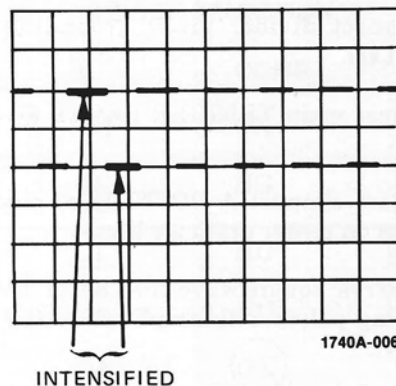

Figure 6. Normal Display With Intensified Area
5. Adjust DELAY **52** clockwise until intensified portion of trace is over area to be investigated (see figure 6).